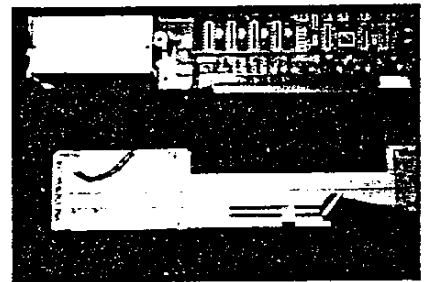

Fig. 2-8. LED Harness Removal
2.4.4 At this time, the LED harnesses connected to the front BEZEL can be unplugged. The drive LED wire disconnects at an in-line connector and the power LED disconnects at the PCB, J15 as shown in Fig. 2-8. Set the front BEZEL aside.